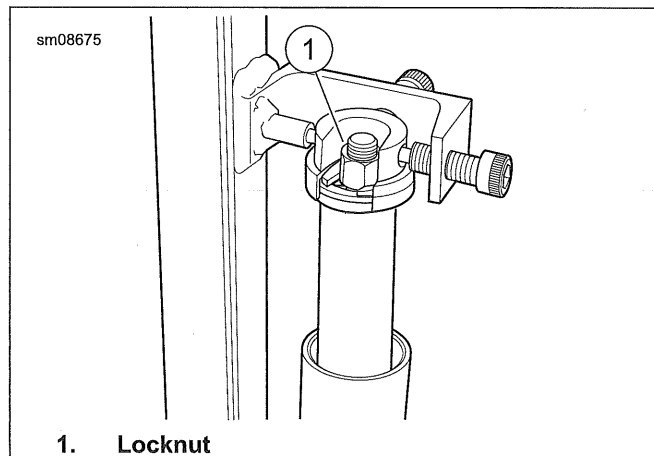

Figure 3-78. Compress Fork Spring
- c. See Figure 3-78. Remove nut (1).